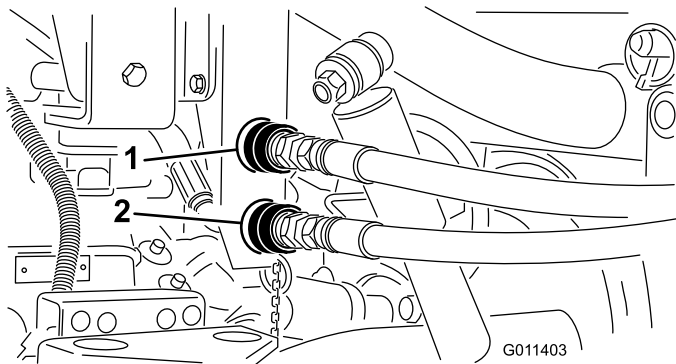

Figure 17
3. Clean any dirt from TopDresser quick couplers (Figure 17) before connecting. Dirty couplers can introduce contamination to the system. After cleaning, attach both quick couplers to the Workman. The hoses are marked "A" and "B", match them to the quick couplers when installing. Assure both quick couplers are full engaged.
Note: Couplers shown in Figure 17 are from vehicles with serial numbers prior to 239999999.